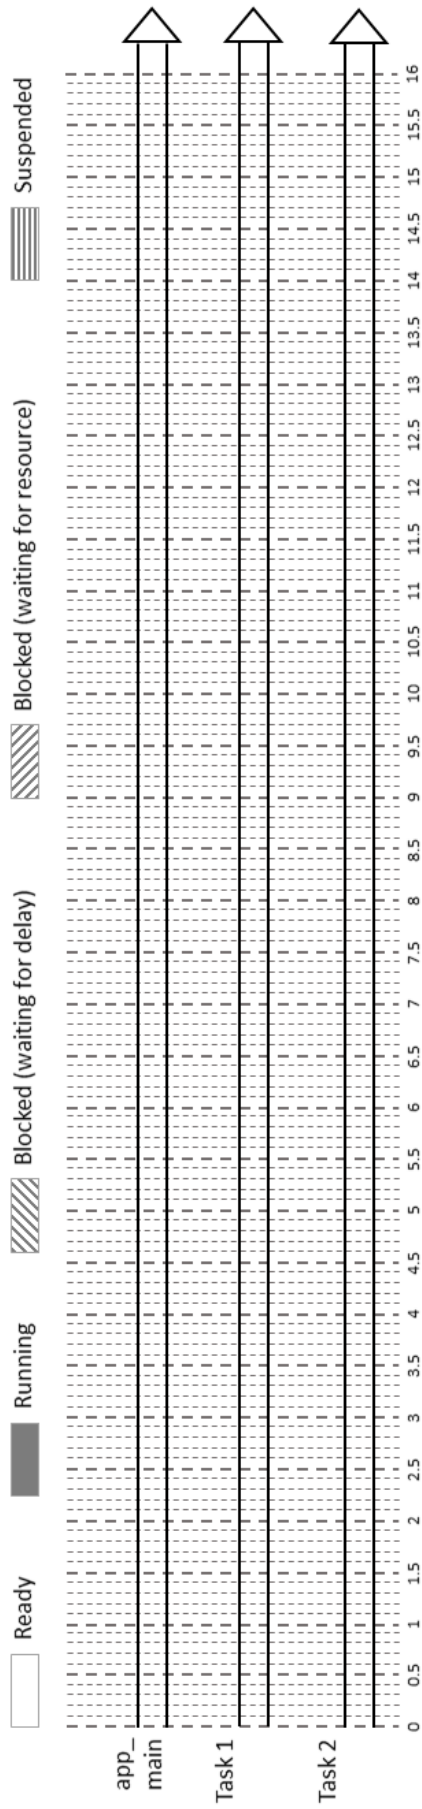

FIGURE 1.2 – Scheduling of 3 tasks.
12. For this scenario, trace in the figure 1.2 the behavior of the *app\_main()*, *Task 1* and *Task 2* tasks until 160 ticks.